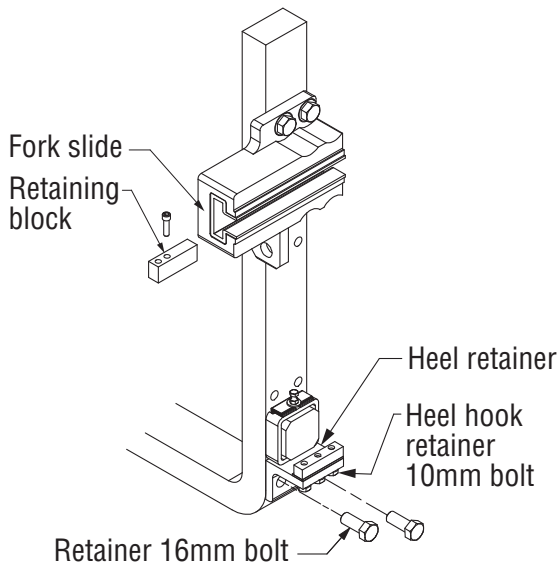

Figure 6-1, Inner Fork
4. Remove heel hook retainer bolts. (Figure 6-1)